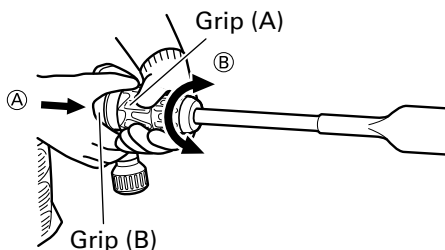

Fig. 4
- (1) As shown in Fig. 4, the blade angle can be freely changed if the grip (A) is turned in the direction of ② in a state where grip (B) is slid in the direction of ③.
- (2) Release grip (B) and turn the tool, and make sure that it is locked completely.